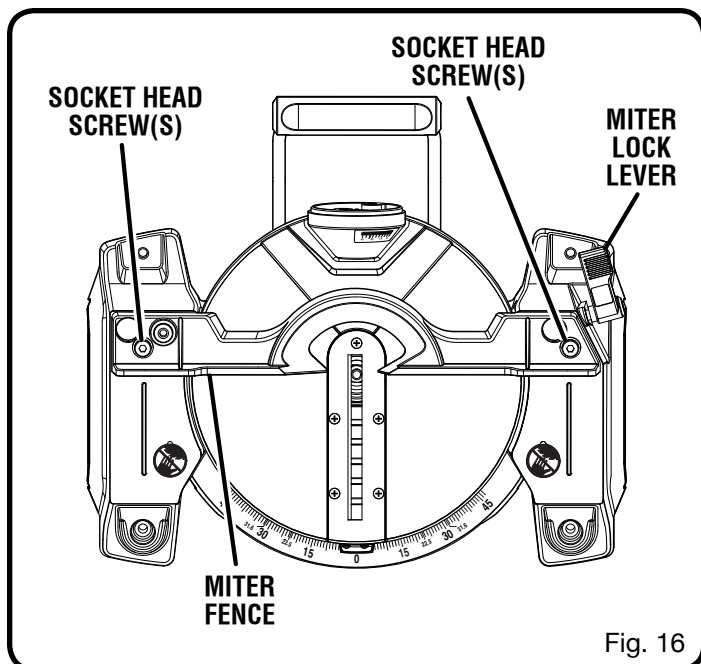

Fig. 16
See Figures 16 - 19.
- Using the blade wrench, loosen the socket head screws that secure the miter fence to the miter table. See figure 16.